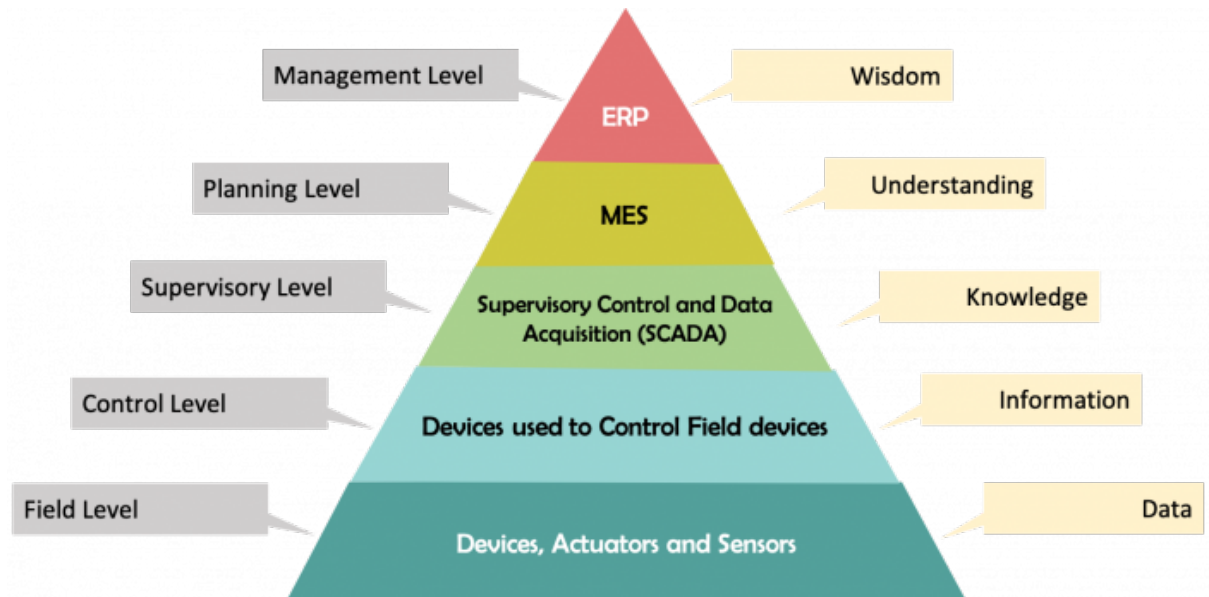

Figure 2: Automation Pyramid
Here to cover a large and mixed audience let me touch on a few fundamentals quickly. Figure 2 presents the information in terms of the Automation Pyramid.¹⁾ Here is a picture of how industry automation works and the different levels of automation. Any industry starts with the field level and ends with the business logic. Now let us have a quick walk through on every level.
- Using predicative models at all levels of the automation pyramid (see Figure 2)